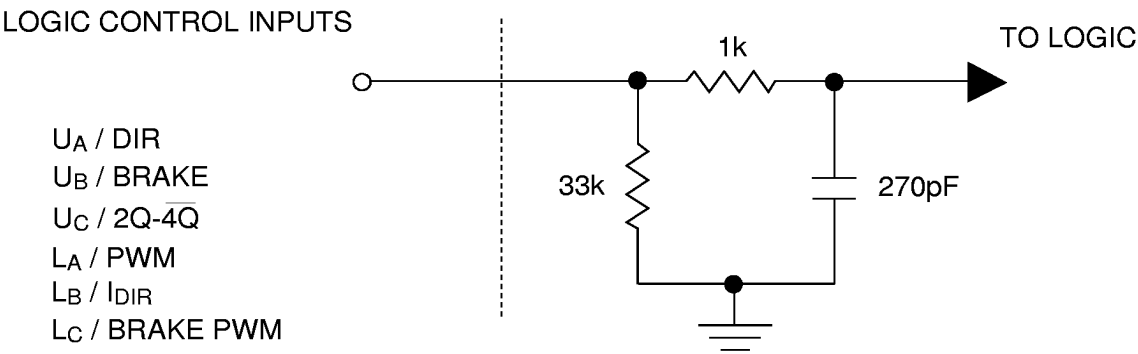

FIGURE 2. INTERNAL INPUT LOGIC NOISE FILTERING
The logic control inputs are dual function inputs that allow the user to select external or internal control for the switching of the output transistors. When INPUT SEL is a logic low (0), the six logic inputs, (U_A, U_B, U_C, L_A, L_B, L_C) control the switching of the output transistors. As shown in TABLE 4, a logic high (1) turns on the output transistor, and a logic low (0) turns the transistor off. The PW-82351 outputs PHASE A_{OUT}, PHASE B_{OUT} and PHASE C_{OUT} are either a H (V_{CC}), L (RTN), or Z (OFF), depending on the logic input. However, when INPUT SEL is a logic high (1), it enables the alternate input functions, DIR, PWM, BRAKE, I_{DIR}, 2Q-4Q, and BRAKE PWM as shown in TABLE 3. All 6 logic control inputs have built-in noise filtering as shown in FIGURE 2.